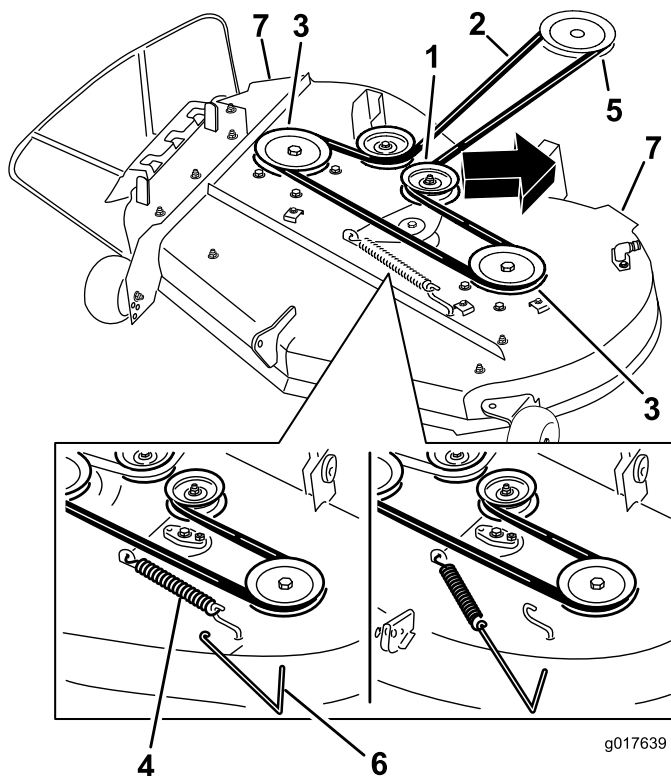

Figure 62
7. Using a spring-removal tool, install the idler spring over the deck hook, and place tension on the idler pulley and mower belt (Figure 62).
5. Using a spring-removal tool (Toro Part No. 92-5771), remove the idler spring from the deck hook to remove tension on the idler pulley, and roll the belt off the pulleys (Figure 62).
6. Route the new belt around the engine pulley and mower pulleys (Figure 62).